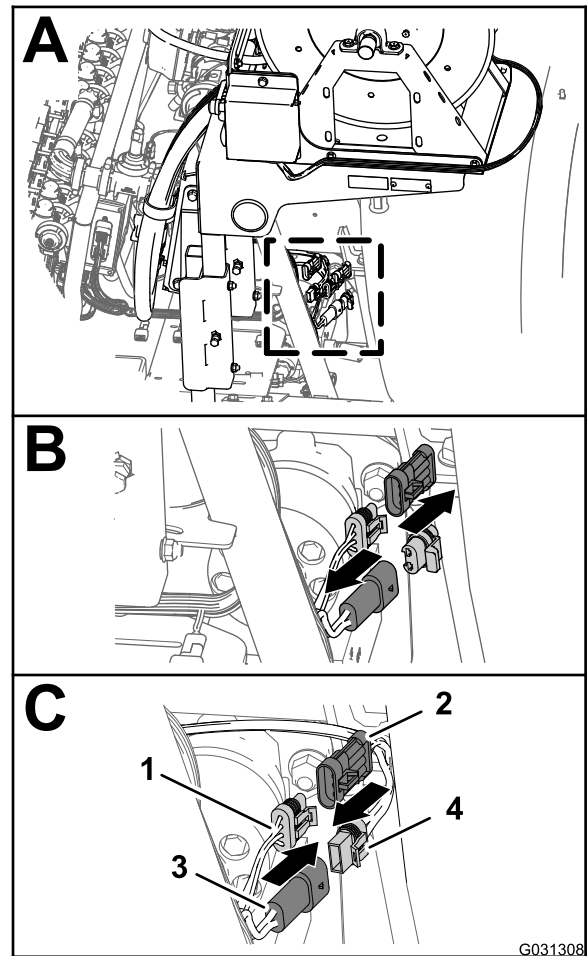

Figure 182
- At the back of the machine, locate the wire harness for the electric hose-reel kit at the back of the sprayer tank (A of Figure 182).
- Remove the plug from the 2 pin connector of the rear, main harness for the hose-reel power (B in Figure 182).
- Connect the 2 socket connector of the harness for the electric-hose reel into the 2 pin connector of the rear, main harness (C in Figure 182).
- Remove the cap from the 3-socket connector of the rear, main harness for the spray harness interconnect (B in Figure 182).
- Connect the 3 pin connector of the harness for the electric-hose reel into the 3 pin socket of the rear, main harness (C in Figure 182).